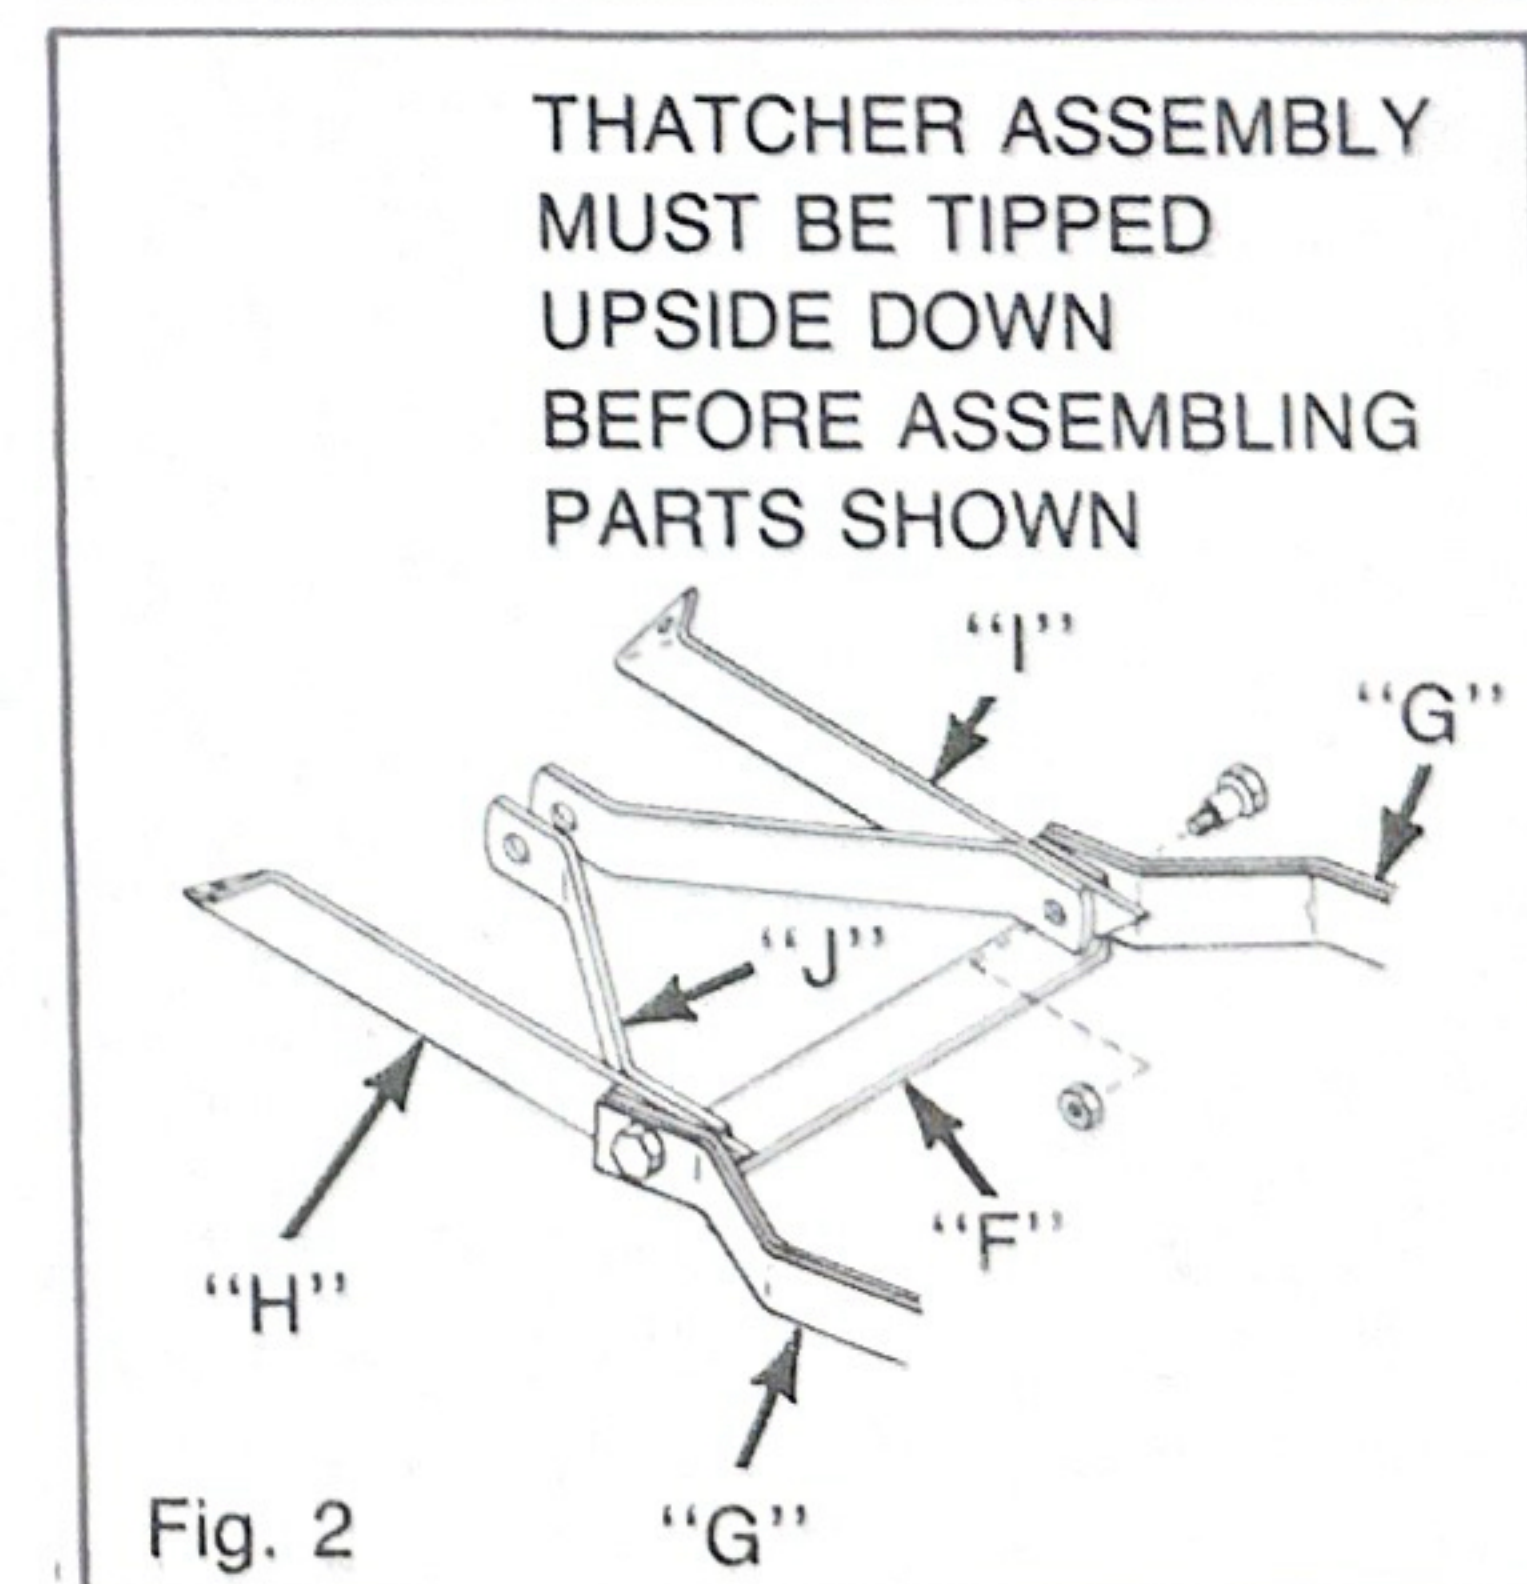

Fig. 2
3. Locate parts shown in Figure 2 for assembly to thatcher assembly.
B. Place stabilizer "F" Figure 2 between mounting arms "G" of thatcher assembly.